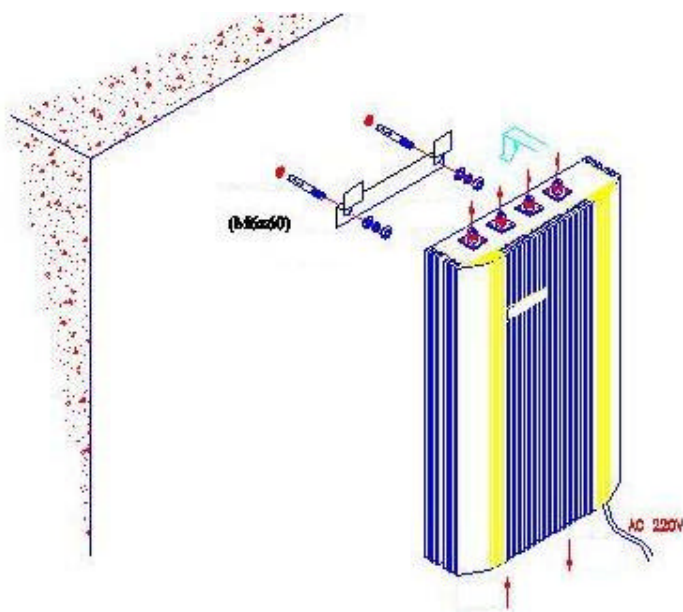

Figure 3.2-1 RS-5180 Remote Unit Installation Schematic
Remote Unit cabinet should be hung on wall as shown in figure 3.2-1.
4.2.1 Connection with RF Cable and Optical Fiber figure 3.2-1: Remote Unit Installation Schematic Diagram .